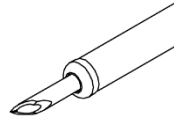

Figure 2: Exposed Needle
2. Prepare a luer-lock adaptable syringe with the liquid solution to be injected. Make sure that the needle is in its fully exposed position. (Figure 2)